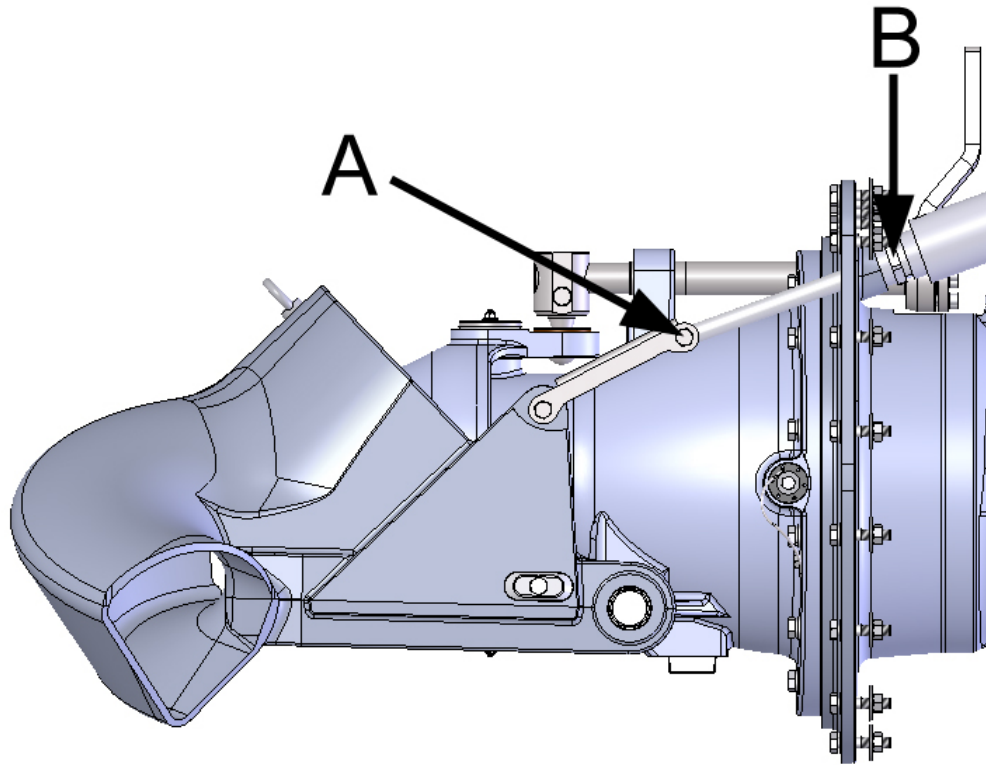

Figure 38. Removing the cylinder
3. Open the pivot bolt of the intermediate bar that connects the hydraulic cylinder to the reversing deflector (figure 38, point A).
4. Open the fastening nut of the hydraulic cylinder (figure 38, point B).